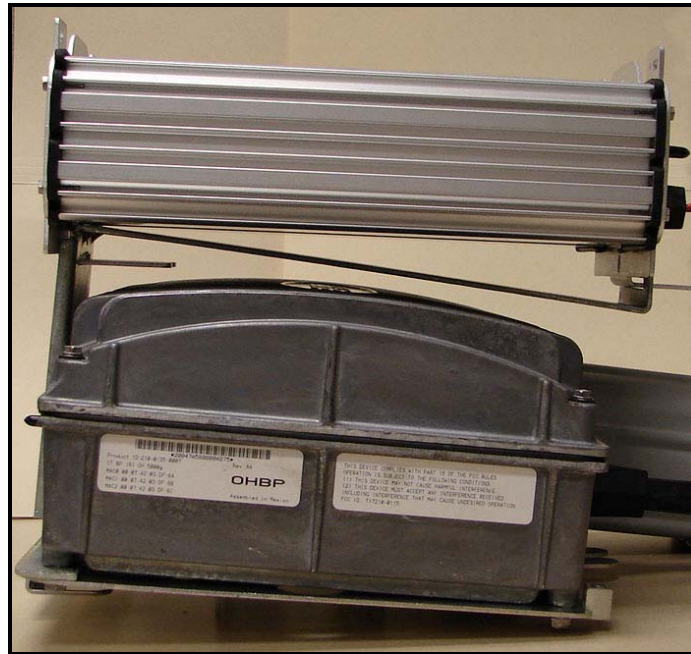

Figure 48 – Gateway-Bridge attached to CT Backhaul-Point
5. Slide the Gateway-Bridge hooks into the slots of the bracket (*Figure 48*).